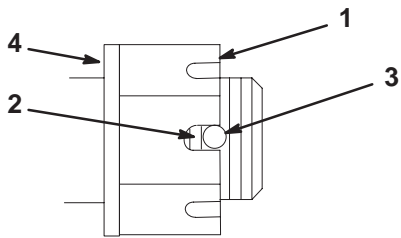

Figure 53
3. Torque slotted nut to 125 ft-lbs (169.5 N•m) (Fig. 53).
4. Check the distance from bottom of slot in nut to inside edge of hole. Two threads or less should be showing (Fig. 53).
5. If more than two threads are showing remove nut and install washer between hub and nut (Fig. 53).
6. Torque the slotted nut to 125 ft-lbs (169.5 N•m) (Fig. 53).
7. Tighten nut until the next set of slots line up with the hole in the shaft (Fig. 53).